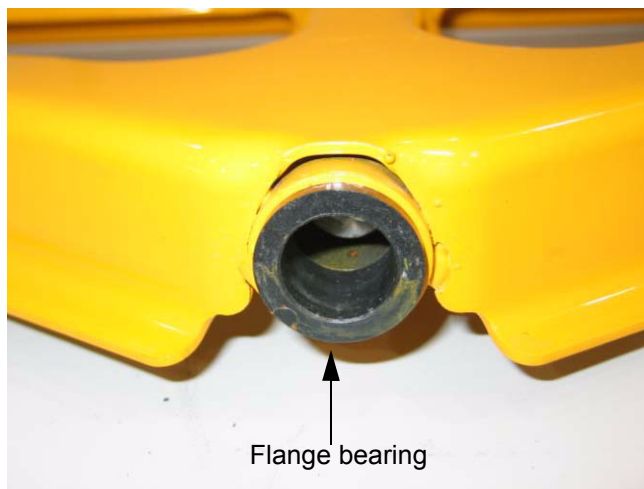

Figure 8.11
- 8.11. Inspect the flange bearing on each side of the pivot axle for wear. Replace as needed. See Figure 8.11.